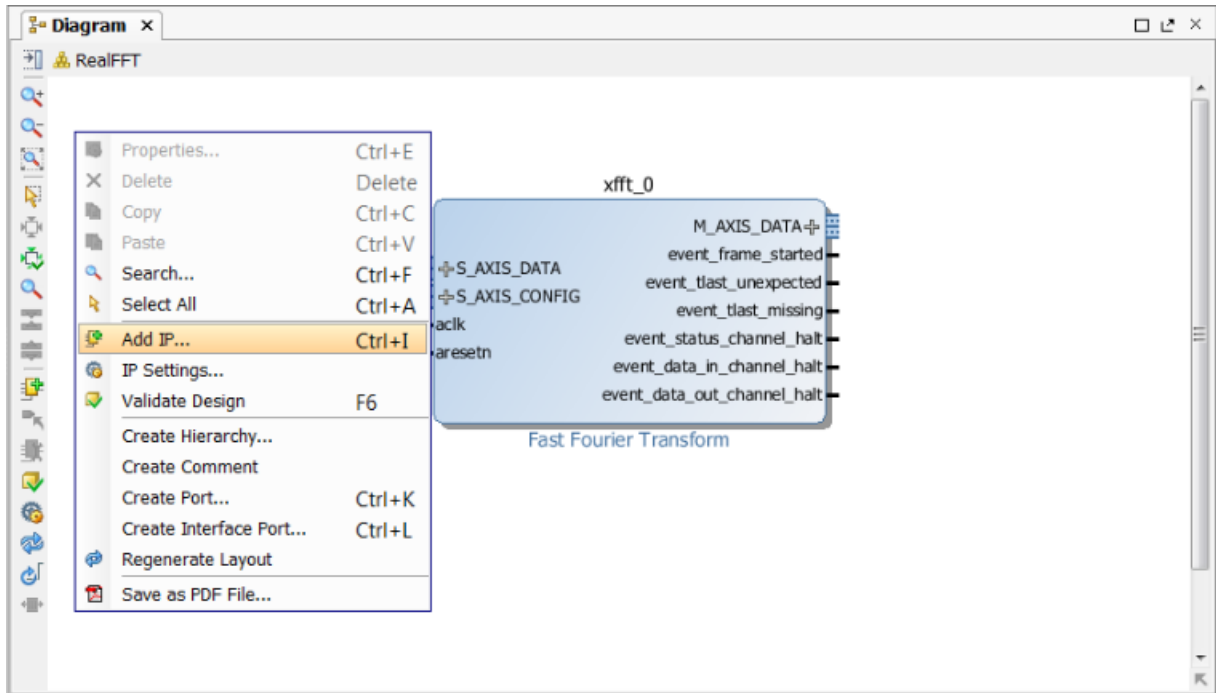

Figure 9-16: Add IP Blocks
6. Right-click in any space in the canvas and select **Add IP** (Figure 9-16).